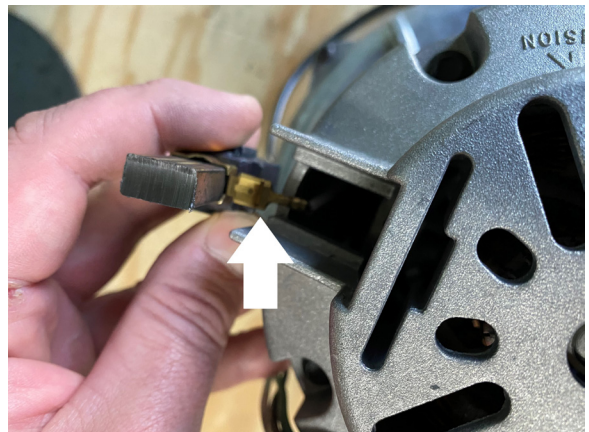

Fig. 5
8. Once the Brush is out of the Motor Housing, you will notice a single wire attached to the bottom of the Motor Brush Holder (Fig. 5). Carefully disconnect this wire from the Motor Brush Holder and try to not let the wire fall back into the Motor Housing.
2. Start with one of the Motor Replacement Brushes and connect the single wire coming from inside the Motor Housing to the gold tab on the bottom of the Brush Holder as seen in Figure 5.